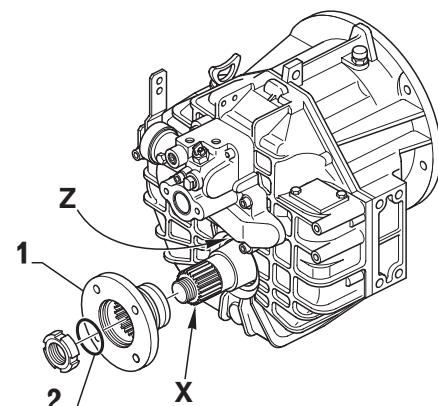

FIG. 8-1a
Provide spline (X) of output shaft with a thin coat of Loc-tite 245 and sealing lip (Z) of shaft seal with a thin coat of ATF fluid. (Fig. 8-1a and b)
Tighten output flange down on output shaft with nut ring (item 3, Fig. 8-1a).